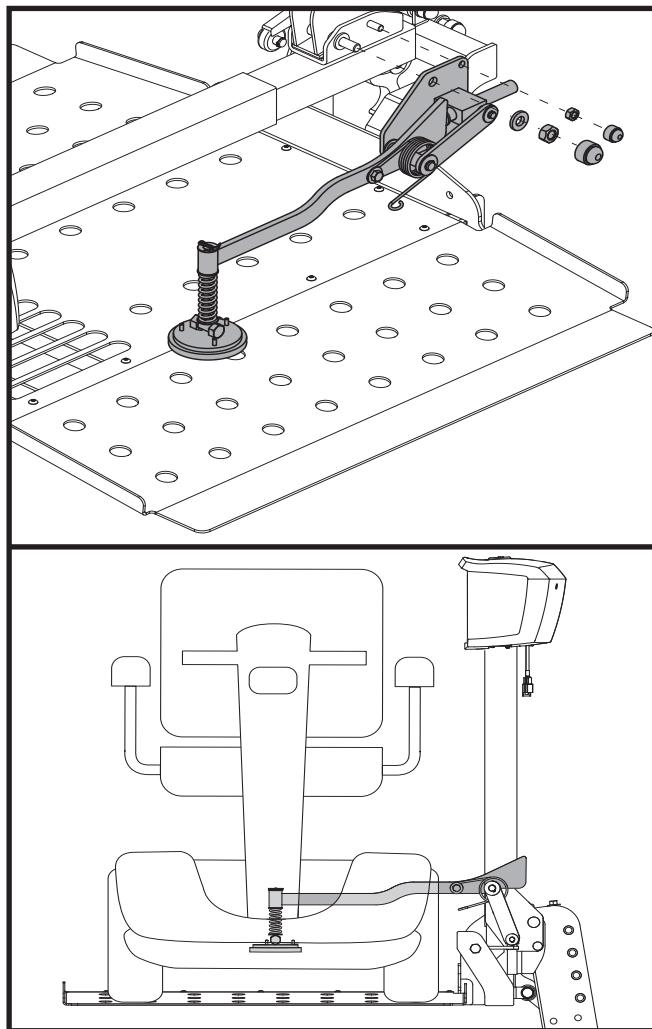

Figure 4. Lock-down Arm Installation
3. Remove hardware. **See figure 4.**
4. Position the lock-down arm onto the threaded bolts and align with the two holes. **See figure 4.**